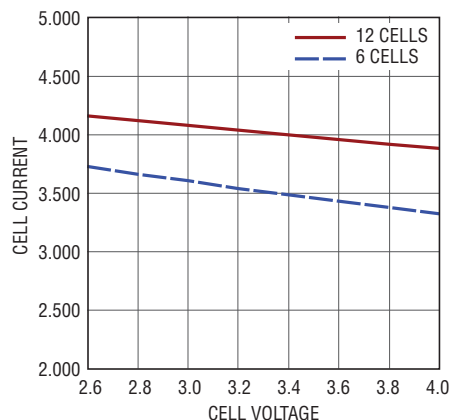

Figure 29. Cell Charge Current
1. CONTROL PANEL WINDOW – FIGURE 29 (CELLS TAB)